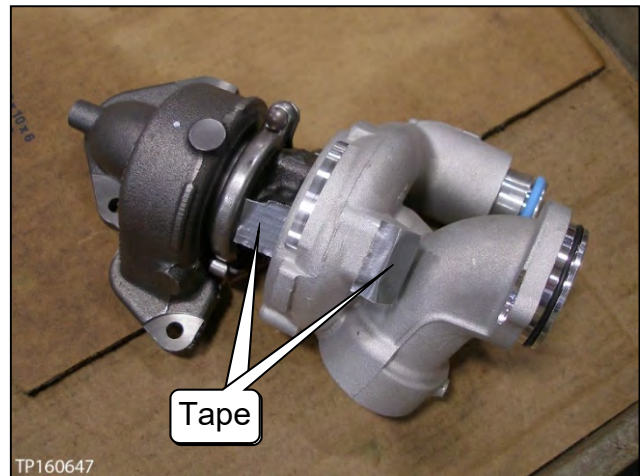

Figure 60
1. Remove the high pressure turbocharger from its packaging, and then install tape where shown in Figure 60.